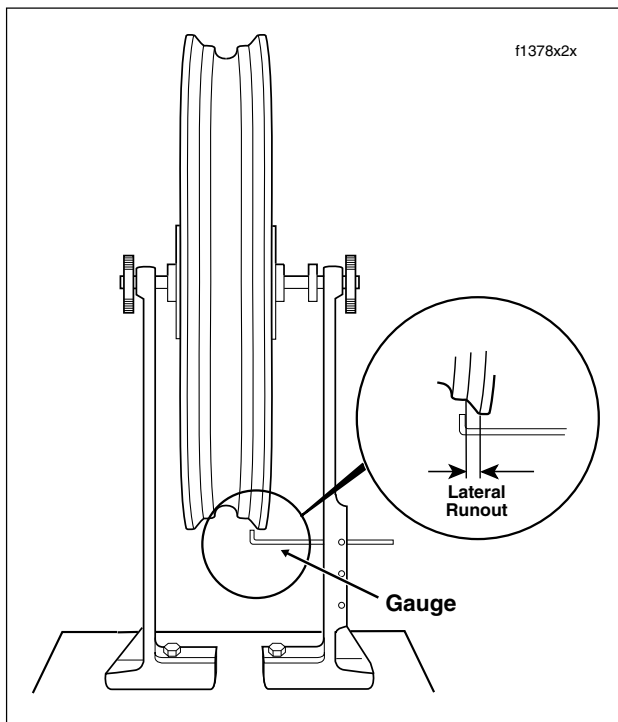

Figure 2-15. Checking Rim Lateral Runout
2. See Figure 2-15. To check rim lateral runout, place a gauge rod or dial indicator near the rim bead. If lateral runout exceeds 0.040 inch (1.02 mm), replace the wheel if cast. Retrue the wheel if laced.